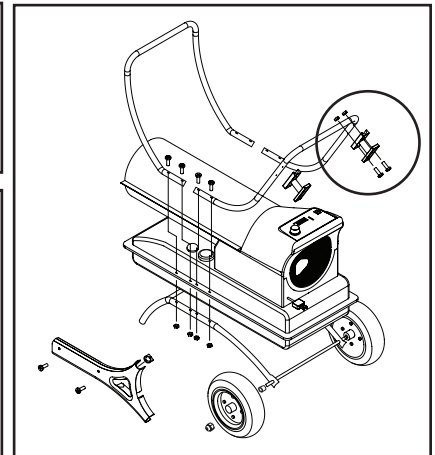

Figure 1. Handle Assembly
6. Take the front handle and align the mounting holes with the corresponding holes in the tank flange/wheel frame. Slide a screw (A) through the holes and loosely attach a nut. Repeat for the other 3 holes, then fully tighten all 4 screws and nuts.
8. Attached cord wraps on both rear handles with 2 screws and 2 nuts, see Figure 1.